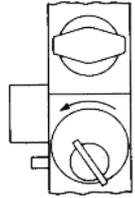
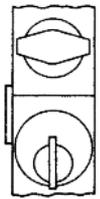

Figure 3-7
Figure 3-8
B. To allow the latch to return to lock mode, reinsert and turn the key to the left (counterclockwise) to the stop position (**See Figure 3-7**). Return the key to the pull position and remove (**See Figure 3-8**).